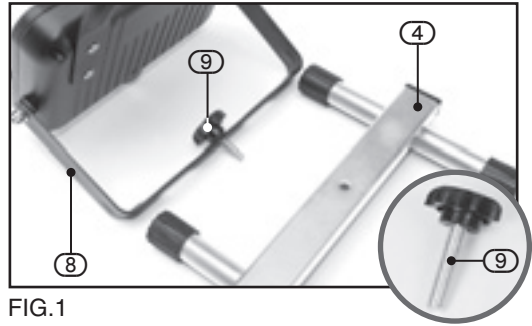

FIG.1
8.1 FLOOR STANDING WORKLIGHTS – FIGS. 1 – 2
- Thread the lamp head bracket fixing bolt (9) through the lamp head bracket (8).